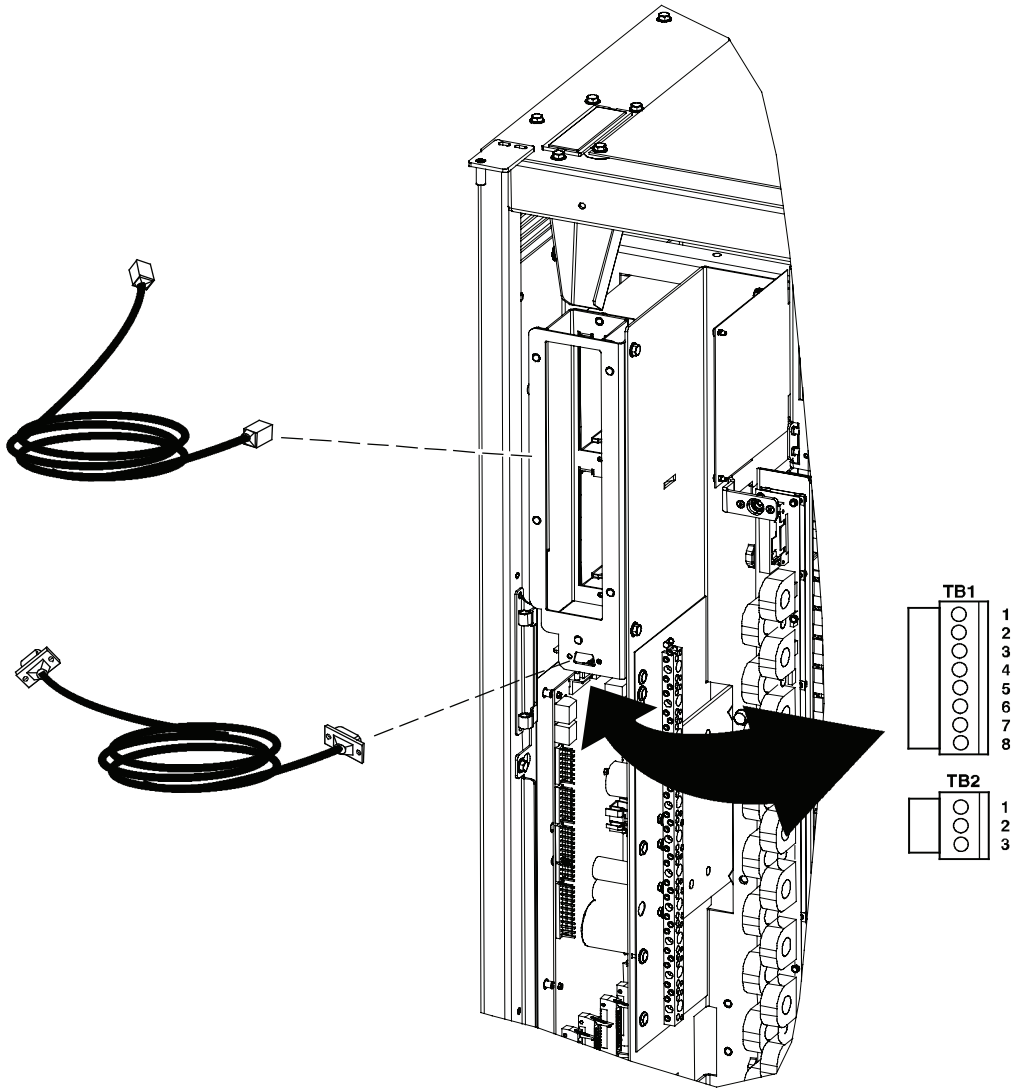

Figure 20. Installing Communication Connections
1. Install the appropriate X-Slot card and/or necessary cable(s). See Figure 20.
Note: For ease of installation, unplug the terminal blocks from the UCB (see Figure 20), connect the cables, then plug the terminal blocks back onto the UCB.